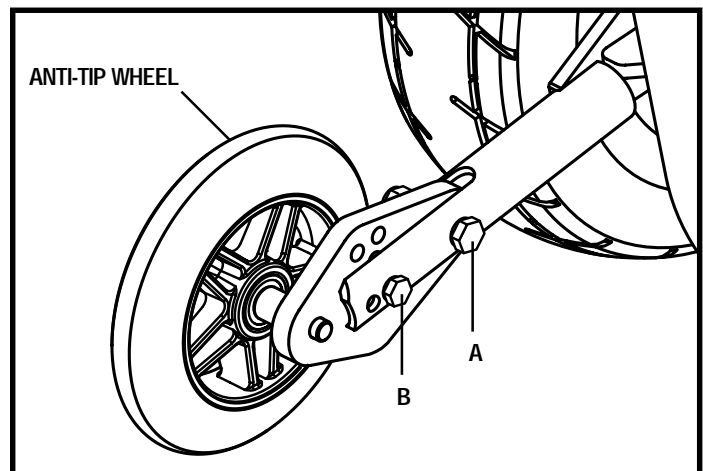

Figure 24. Anti-Tip Wheel Assembly
1. Loosen bolt A. See figure 24.